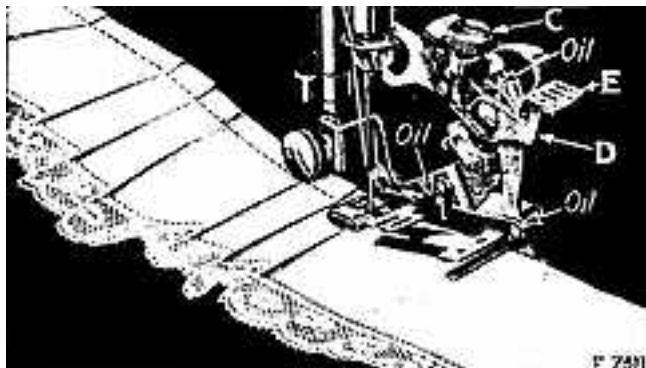

FIG. 32.
The ruffler can be adjusted for group plaiting by lifting the adjusting lever (E Fig. 32) and moving it to the right so that the top of the projection (D, Fig. 32) engages the small slot indicated by the star on the adjusting lever. This should be done at the points where you wish to make the space between the plaits. The ruffler will then stop and plain stitching will be made. When the desired space has been made, adjust the lever (E) so that the projection (D) enters either the slot marked "6" or the slot marked "12." By alternately making groups of plaits and plain spaces, as shown in Fig. 32, very attractive work can be produced.
Occasionally apply a drop of oil to the working parts of the ruffler at each of the places indicated by arrows in Fig. 32. After oiling, operate the ruffler on a waste piece of material to prevent the oil soiling the work. If the ruffler does not plait evenly, a drop of oil may remedy the trouble.